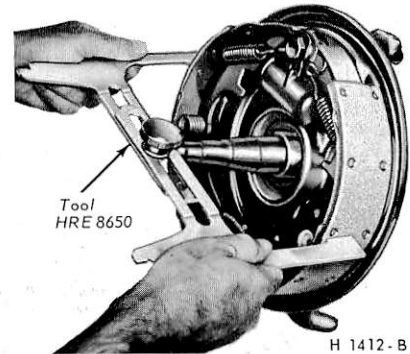

FIG. 10—Measuring Shoes
2. Reverse the tool as shown in Fig. 10 and adjust the brake shoes to touch the gauge. The gauge contact points on the shoes (Fig. 10) must be parallel